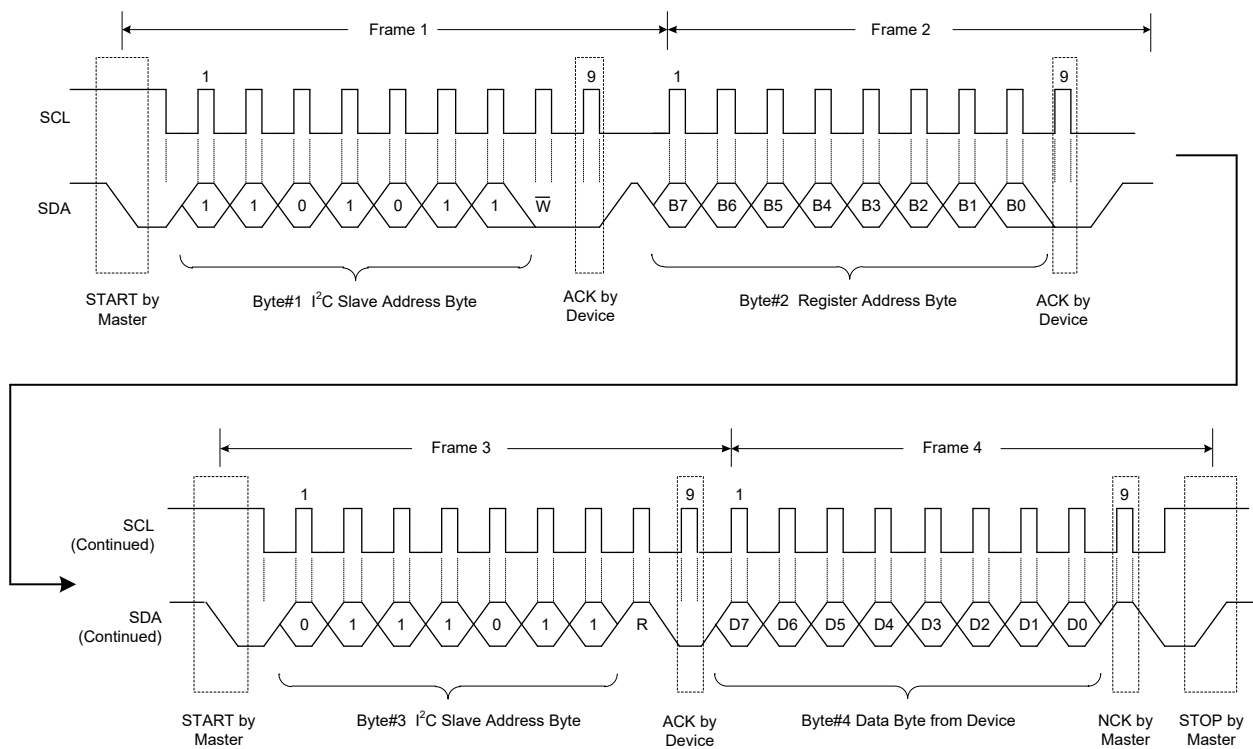

Figure 18. A Single Read Transaction
**READ:** If the master wants to read a single register (Figure 18), it sends a new START condition along with device address with R/W bit = 1. After ACK is received, master reads the SDA line to receive the content of the register. Master replies with NCK to inform slave that no more data is needed (single read) or it can send an ACK to request for sending the next register content (multi-read). This can continue until a NCK is sent by master. A STOP must be sent by master in any case to end the transaction.